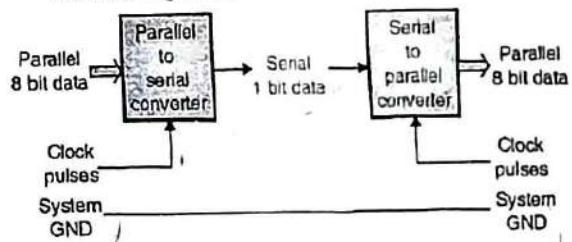

Fig. 9.1.1 : Serial I/O
- To transfer 8 bits of data, it will require 8 clock pulses, on the other side exactly opposite process is done. These serial 8 bits are accepted and converted to parallel form to get 8 bits of data. This process is shown in Fig. 9.1.1.